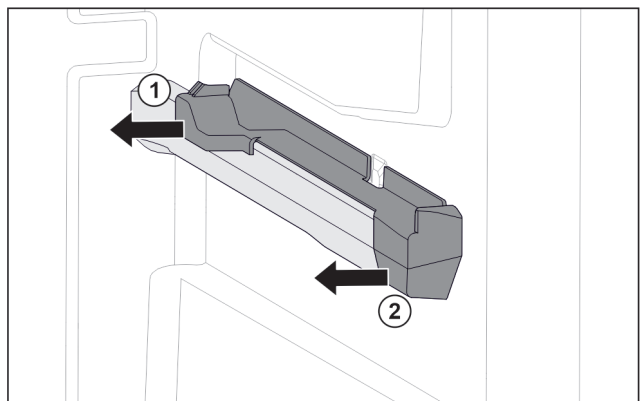

Fig. 97 Attachment on the right moulded rib
- Pull off attachment at the back sideways. Fig. 97 (1)
- Pull off attachment at the front sideways. Fig. 97 (2)